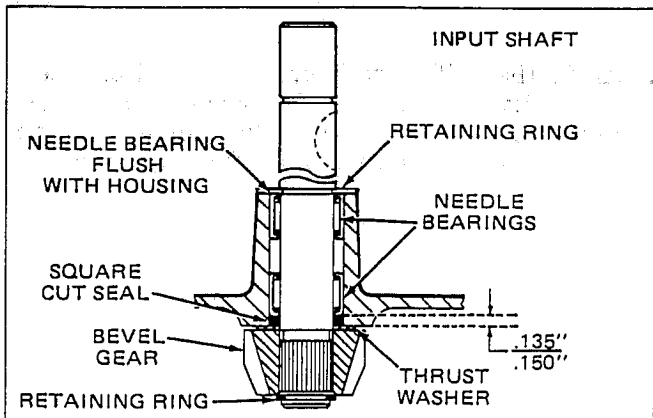

Figure 3-27
10. Remove retaining ring on bevel gear end from input shaft, remove bevel gear and pull shaft through case. See Figure 3-27. The square cut ring must be replaced, if removed.